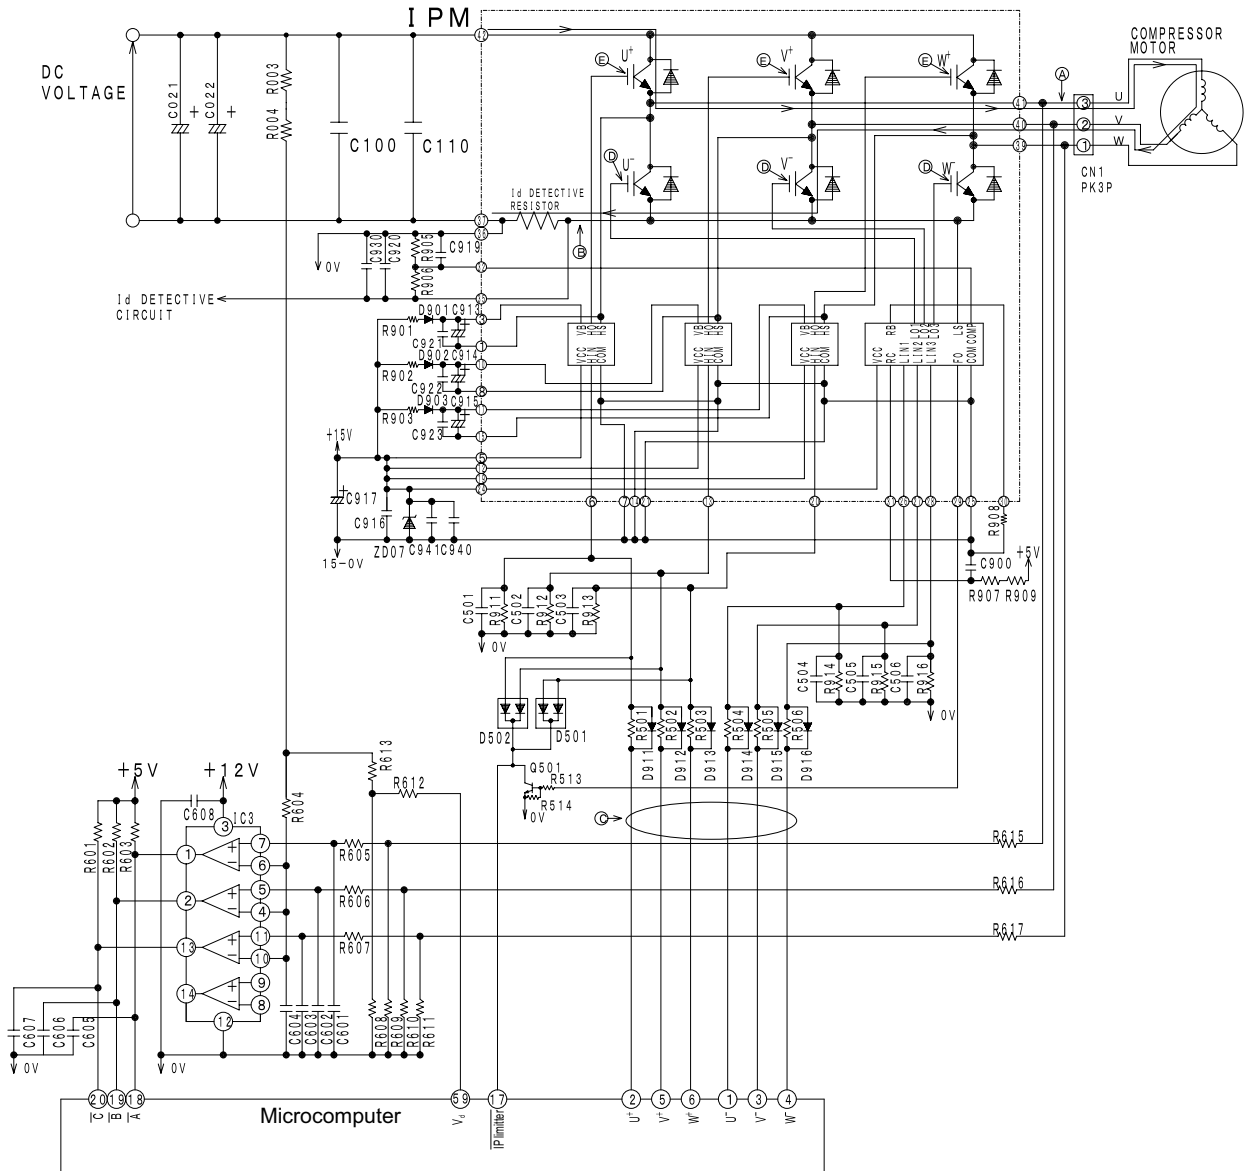

Fig. 4-1 Intelligent power module circuit (U\* is ON, V\* is ON)
- Fig.4-1 shows the intelligent power module and its peripheral circuit. The three transistors on the positive (E) side are called the upper arm, and the three transistors on the negative (D) side, the lower arm.